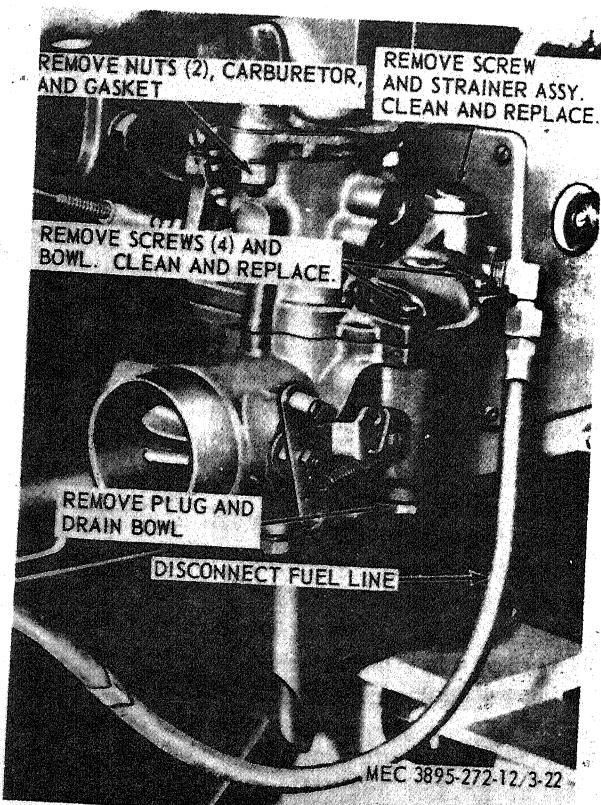

Figure 3-22. Carburetor, removal, installation, and service.
- (1) Disconnect the control linkage from the carburetor.
- (2) Remove air cleaner hose from carburetor.
- (3) Remove the carburetor as instructed on figure 3-22.
- (1) Install the carburetor in reverse of the instructions on figure 3-22. Put in new gasket between flange and mounting pad.
- (2) Connect the control linkage to the carburetor.
- (3) Connect air cleaner hose to carburetor.
- (4) Adjust the carburetor (par 3-9).
- (1) Service the carburetor as instructed on figure 3-22.
- (2) Adjust the carburetor (para 3-9).